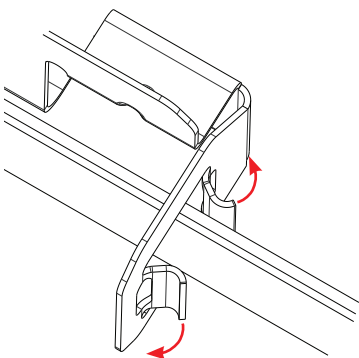
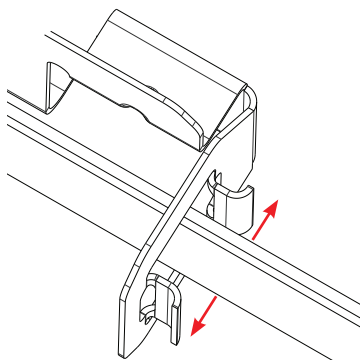

fig. 12
fig. 13
- a. If additional hanger bar clearance is needed, use pliers to bend the alignment tabs on each millwork tab to provide additional clearance for the hanger bar (see fig. 12 and fig. 13).